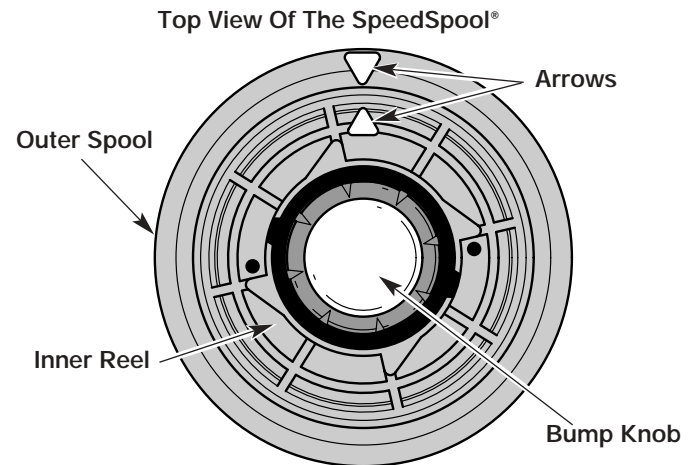

Fig. 12
2. Hold the outer spool and turn the inner reel counterclockwise to line up the arrows on the outer spool and inner reel (Fig. 12).